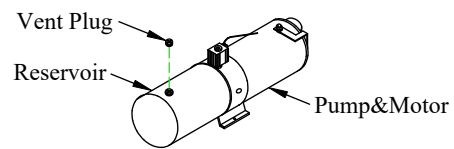

Figure 9: Vent plug.
7. **Install** the vent plug provided into the pump reservoir (Figure 9).